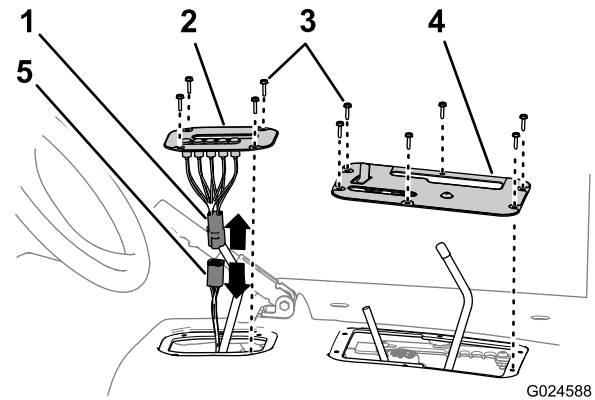

Figure 8
6. Remove the 4 hex-head screws that secure the shift-indicator cover to the seat shroud (Figure 8).
7. Lift shift indicator assembly up, disconnect electrical connectors of the machine harness and indicator, and remove the indicator from the machine. (Figure 8).
8. Remove the 6 hex-head screws that secure the control cover to the seat shroud, and remove the control cover (Figure 8).